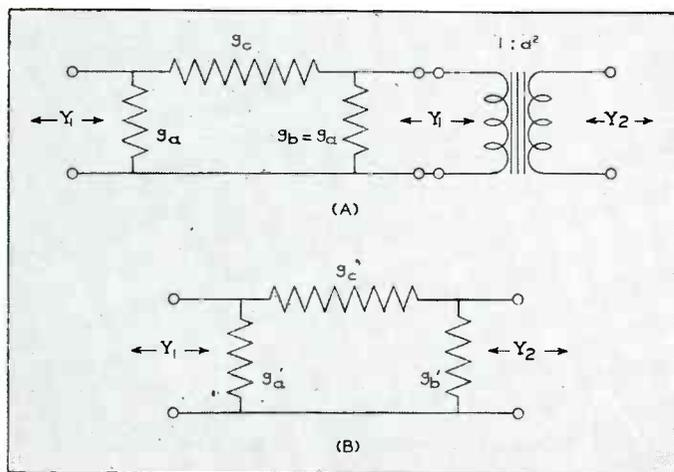

Fig. 3—Symmetrical attenuator and ideal transformer (A) and equivalent dissymmetrical attenuator, (B), with the same loss
A second method of phase controlling is shown in Fig. 4A. In this case a separate thyatron bias voltage is used and control of the thyratrons is effected by a peak voltage superimposed on the bias voltage. The peak voltage is shifted by the phase shift network to vary the firing point. On and off control of this combination can be obtained by means of a series contact, as in Fig. 3, or it can be controlled by changing the a-c bias with a bucking transformer as shown in Fig. 4A. The phase relations of the on and off conditions are shown in Fig. 4B. The phase shift system using a peaking transformer has the advantage of avoiding completely the transients that can exist on the first half cycle when the Fig. 3 circuit is used because the tubes can only fire when a peak is present. Thus, if the initiating switch is closed just after a peak the tube will not fire but will wait until the peak on the next half cycle. Timing may be off by a half cycle but no transients will be generated.
FIG. 3—(A) Contactor with simple phase control added. The amount of current passed to the welding machine depends upon the position of R_1 . (B) Phase relations of line voltage E , grid voltage E_g , and line current I for one position of R_1 .